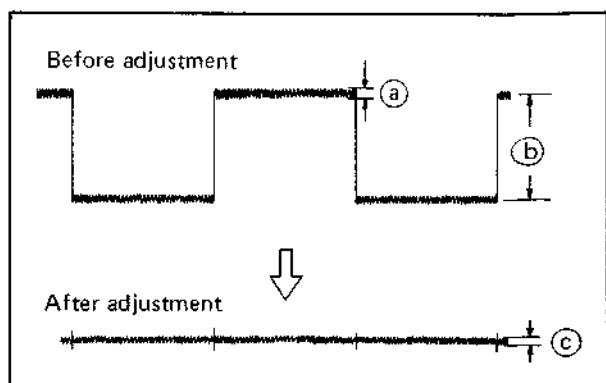

Fig. 5-38 BBD balance
3. Without an input signal, alternately adjust R10 (BALANCE-A) and R11 (BALANCE-B) of the VC board to minimize clock noise (Ⓐ) in Fig. 5-38) as measured at TP-3.
4. Adjust R14 (BALANCE ADJ) of the VC board to minimize switching level difference (Ⓑ) in Fig. 5-38) as measured at TP-3.
5. After adjustment, check that component (Ⓒ) (Fig. 5-38) is equal or less than 10 mVp-p.